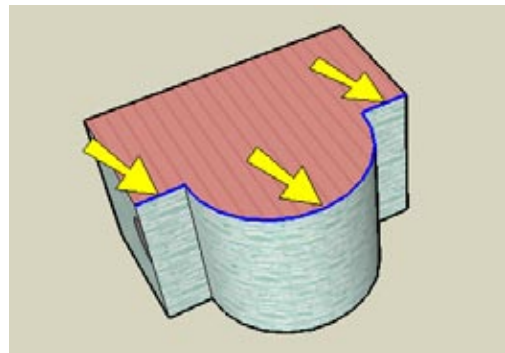

Figure 2-9
2. Select the three edges shown in Figure 2-9.